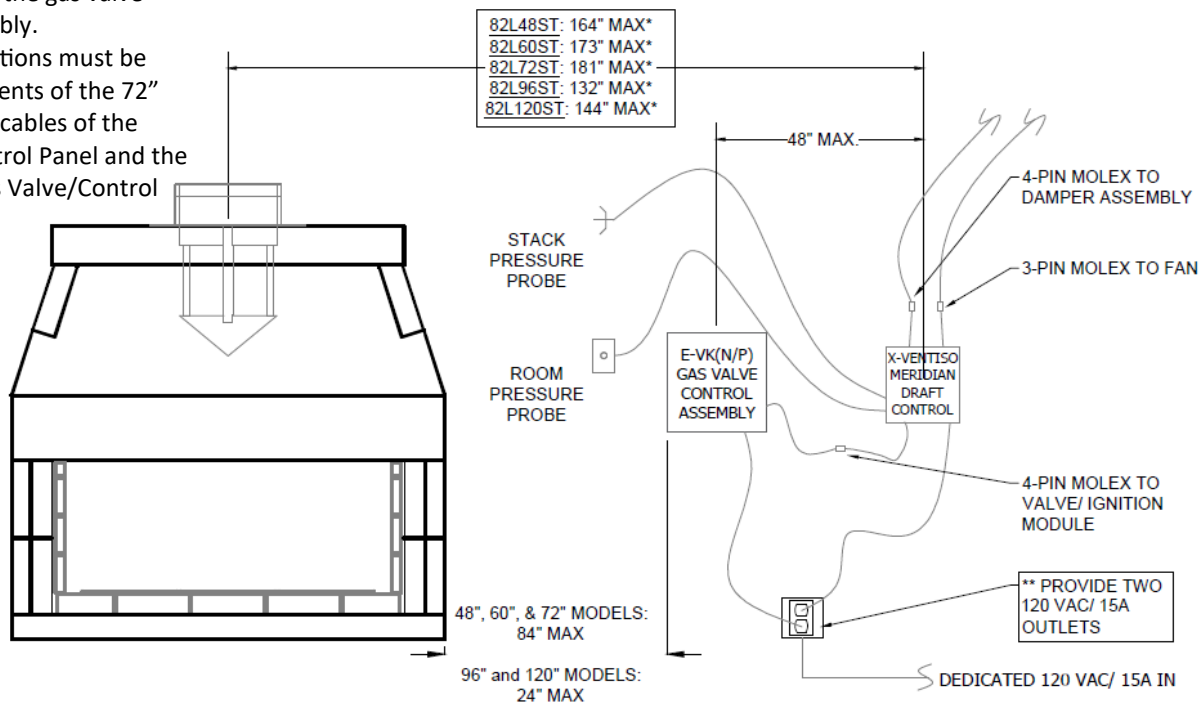

FIGURE 21
- The location of the Meridian Control Panel is dependent upon the fireplace model and must be within the values shown in **(Figure 21)**. The distances shown are as measured horizontally from the fireplace flue-outlet.
NOTE: the Isoflames Linear Burner’s gas valve control box location is also dependent upon the fireplace model/ burner size. It must be located within 84” of the sidewall of the firebox for the 48”, 60” and 72” Maximus Linear and within 24” for the 96” and 120” Maximus Linear **(Figure 21)**.
- Two 120 VAC / 15A outlets must be provided at the chosen location on a dedicated circuit; one for the Meridian Control Panel, the other for the Gas Valve Control Box . These outlets must be within the extent of the 72” power supply cables of the Meridian Control Panel and the E-VK(N/P) Gas Valve Control assembly **(Figure 21)**.
- 3) Connect the top port of the Meridian Control Panel's pressure ports with the supplied tubing to the "Stack Pressure" vent probe (**Figure 21, 22 & 24**). This will be connected to the chimney at a location 12" above the anchor plate.
- 4) Connect the lower port of the Meridian Control Panel's pressure ports with the supplied tubing to the "Room Pressure" vent probe (**Figure 21, 23 & 24**). The other end will be connected in a suitable location in the room in which the fireplace is installed. This location must be in the same pressure zone as the fireplace opening, and within reach of the supplied tubing's connection to the Meridian Control Panel. Do not locate sensor in close proximity to exterior doors, opening windows, supply air diffusers, or other know air disturbances. The tubing measures 20ft.